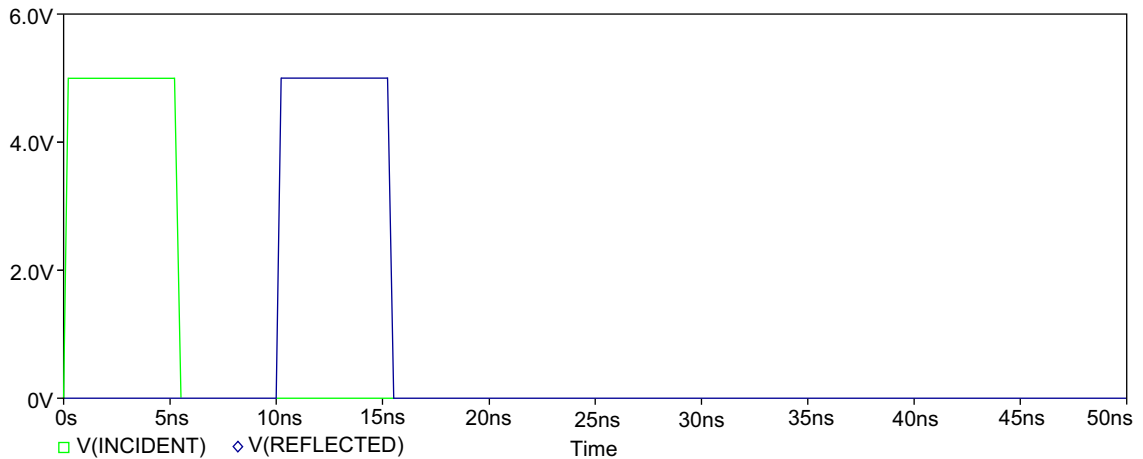

FIGURE 17.9
5. Figure 17.9 shows the source pulse and the delayed load pulse after 10 ns. Initially, the source resistor and transmission line act as a potential divider, so the voltage amplitude divides down to 5 V.